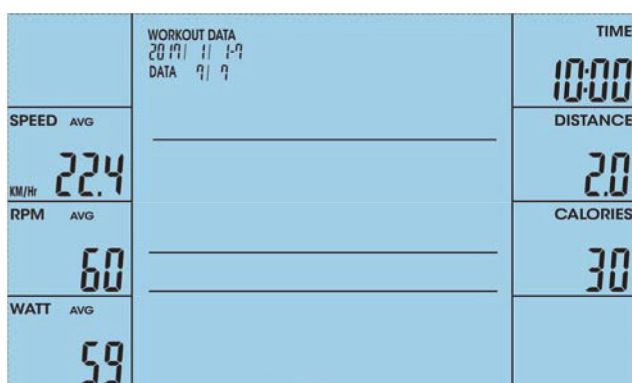

Fig. 57
1. When you want to check the data, press the mode selection in the main programme and press RECORDED DATA. Then press UP/DOWN to see the previously saved data (fig. 57).